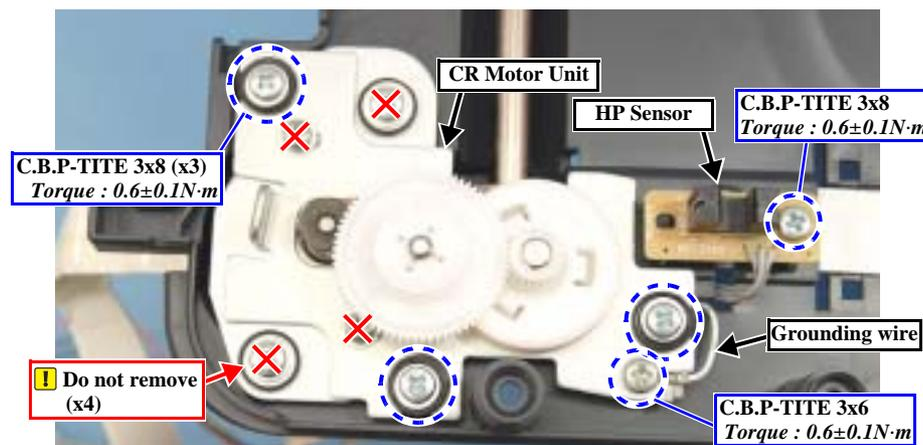

Figure 4-45. CR Motor Unit and HP Sensor
2. Remove the screw securing the HP Sensor. (Fig. 4-45)
Do not remove the screws (x4) marked with X for the CR Motor Unit shown at right. Once they are removed, the belt tension will change. In such a case, the CR Motor Unit must be replaced. (Fig. 4-45)
3. Remove the screw fastening the grounding wire to the CR Motor Unit. (Fig. 4-45)